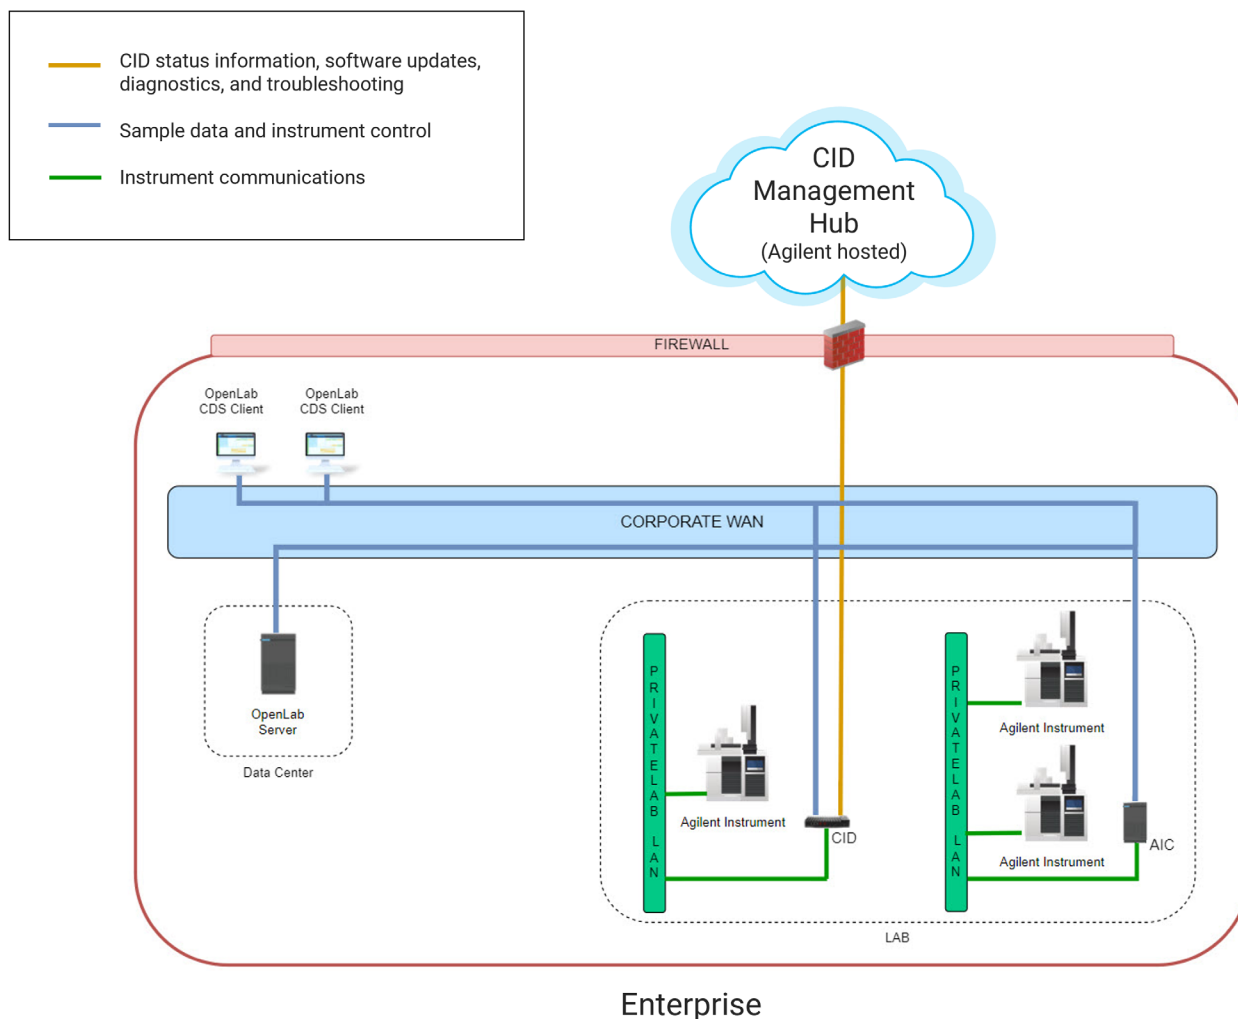

Figure 1. Network Deployment Diagram
The CID is a component of a client-server OpenLab CDS deployment. It is functionally equivalent to the Agilent OpenLab Analytical Instrument Controller (AIC). Rather than installing software on a Microsoft Windows PC, the CID is a turnkey Internet of Things (IoT) device that can be managed remotely and deployed using an Agilent-hosted cloud-based CID Hub. Figure 1 shows a distributed OpenLab CDS deployment including both a CID and an AIC. Although CIDs and AICs have many similarities, only CIDs have the connectivity features that make it visible and accessible in the Agilent CID Hub.
As shown in Figure 1, CIDs have two network interfaces: one connected to the corporate Wide Area Network (WAN) and CID Management Hub (via the internet), the other connected to a private lab/instrument Local Area Network (LAN) or directly to an instrument.
Proxy component (shown in Figure 1) acts as a firewall, shielding the Windows VM from all incoming network traffic except connections from CDS clients. Outbound network connections from the CID to the backend CDS components use a reverse proxy mechanism which makes the source IP address for these connections be the IP address of the Linux system. The operating system (OS) for the Windows VM is Windows 10 IoT Enterprise LTSC, which is Microsoft's OS for IoT appliances that do not require domain policies, and where no Windows updates are required to be managed by IT. This can be centrally handled by the Agilent CID Hub Management system. Running the Windows system as a VM that does not have an IP address visible to the corporate network adds a layer of protection.